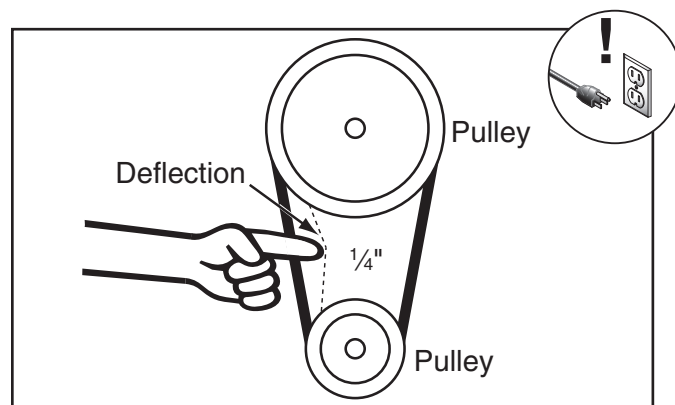

Figure 71. Checking V-belt tension.
4. To tension the V-belt, slide the motor to the left until the V-belt is snug, then tighten the bolts. The amount of V-belt deflection between the pulleys should be approximately 1/4" when moderate pressure is applied, as shown in **Figure 71**.